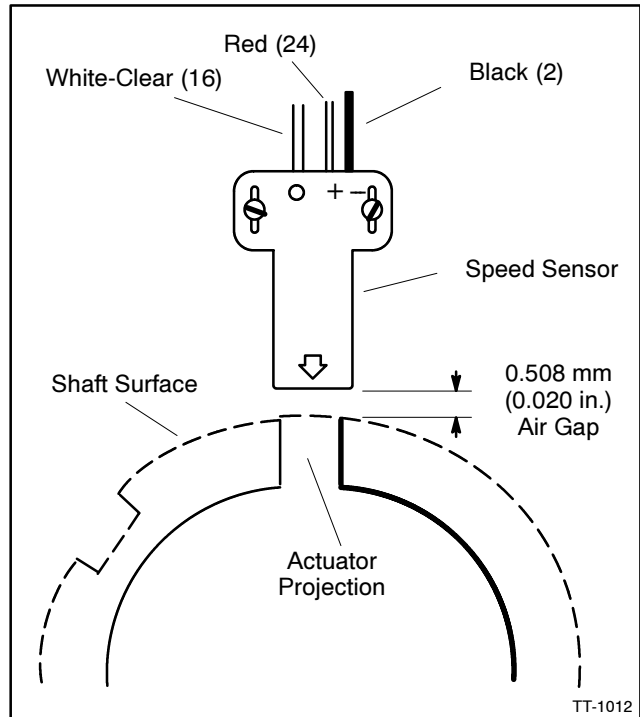

Figure 10 Speed Sensor Air Gap
18. Reconnect speed sensor leads. Set speed sensor air gap to 0.5 mm (0.020 in.). See Figure 10.